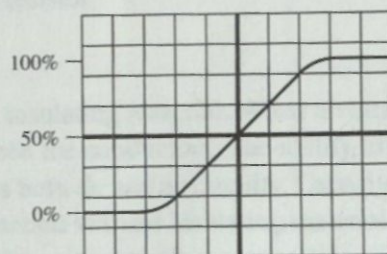

Figure 19-4
4. An analog oscilloscope presentation has the SEC/DIV control set to  $2.0 \mu\text{s}/\text{div}$  and the X10 magnifier is OFF. Determine the rise time of the pulse shown in Figure 19-4.